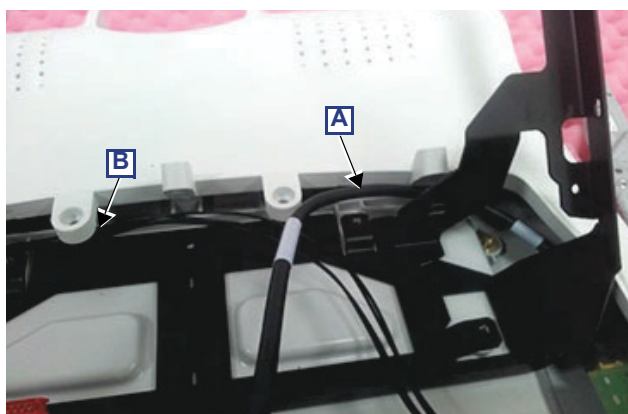

Figure 8-74 Routing and Connecting the Touch Screen Cables
- 5.) Reconnect the two Touch Screen cables and make sure to route them as shown in Figure 8-74: